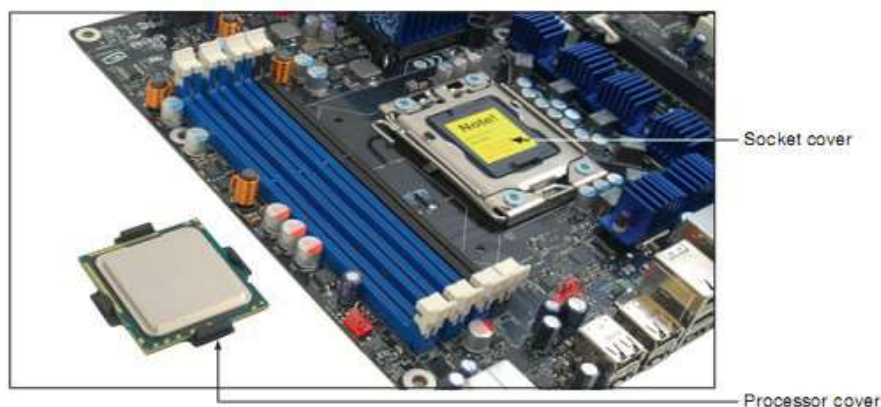
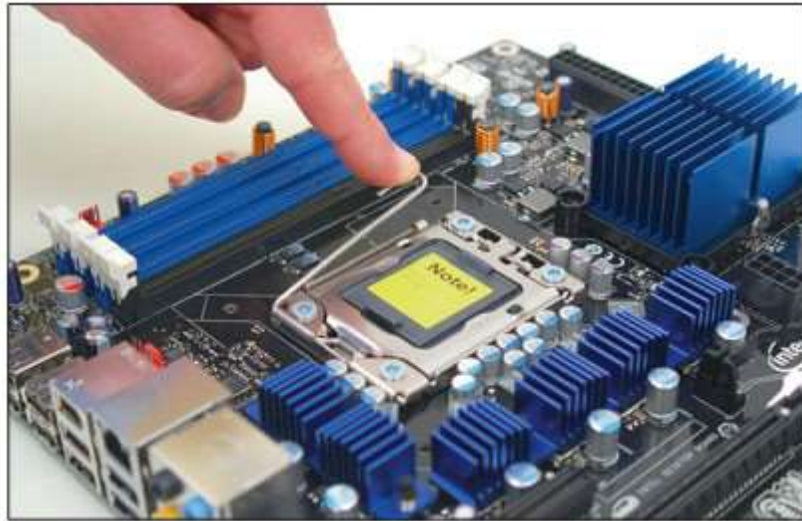

Figure 5
Figure 6
- Open the socket as shown in Figure 5 by pushing down the socket lever and gently pushing it away from the socket to lift the lever (See Figure 6).